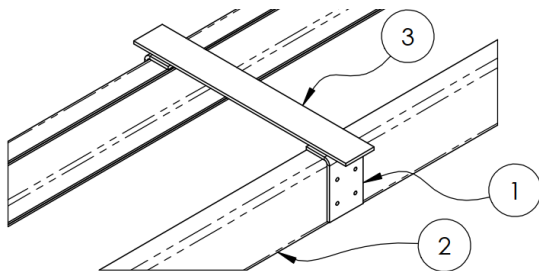

Figure 1.2
Place mounting brackets (1) (not supplied) on frame (2) between cab and hoist system. Align brackets for squareness. Brackets must sit so that the base tube can be welded a minimum of 1" behind the rear most part of the cab. (Figure 1.2)